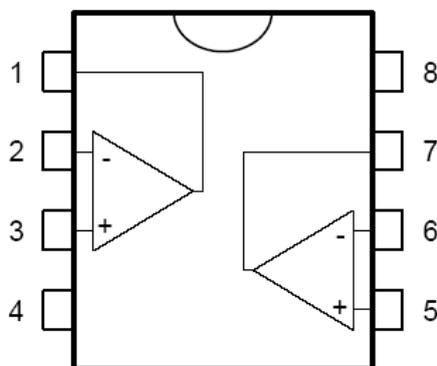
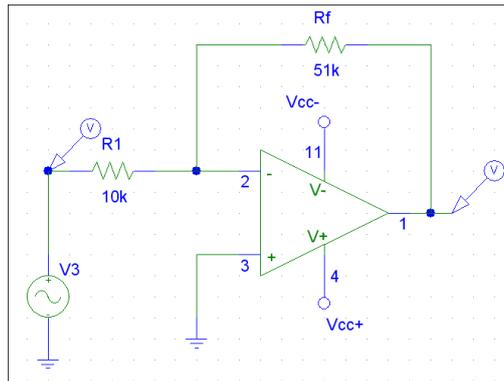

Fig. 1 TL072 operational amplifier pinning. Top view. Power supply: $4V_{CC-}$, $8V_{CC+}$
Fig. 2 Inverting amplifier.
1. Solder circuit illustrated in fig. 2 using one of the amplifiers from TL072. **Warning! The pinning in fig. 2 is incorrect. Please use fig. 1.**